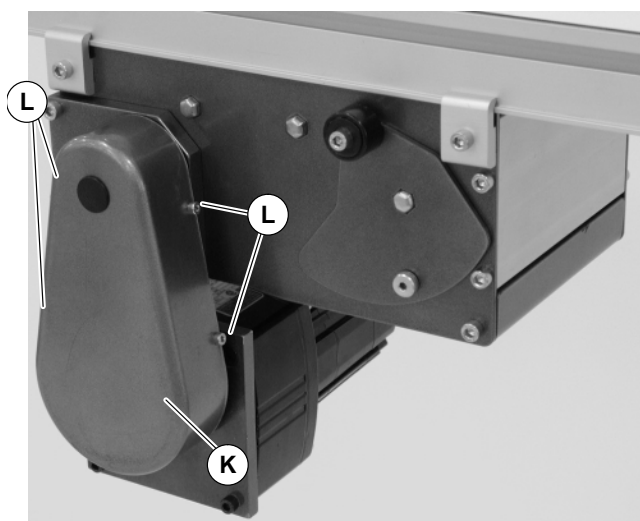

Figure 9
8. Install cover (K of Figure 9) with four (4) screws (L). Tighten screws to 35 in-lb (4 Nm).
13. Install cover (K of Figure 9) with four (4) screws (L). Tighten screws to 35 in-lb (4 Nm).